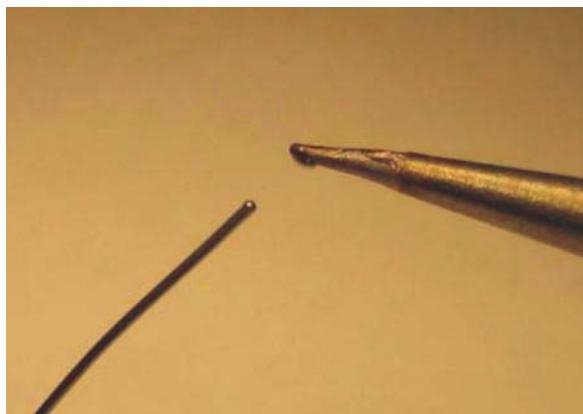

Figure 3-19 Small amount of solder added to ZIF Tip of soldering iron
- 3 Clean the soldering iron tip and add a small amount of solder to the very tip. This may take a few tries because the solder may tend to ball up and move away from the tip. Figure 3-19 shows a small amount of solder on the tip of the soldering iron.